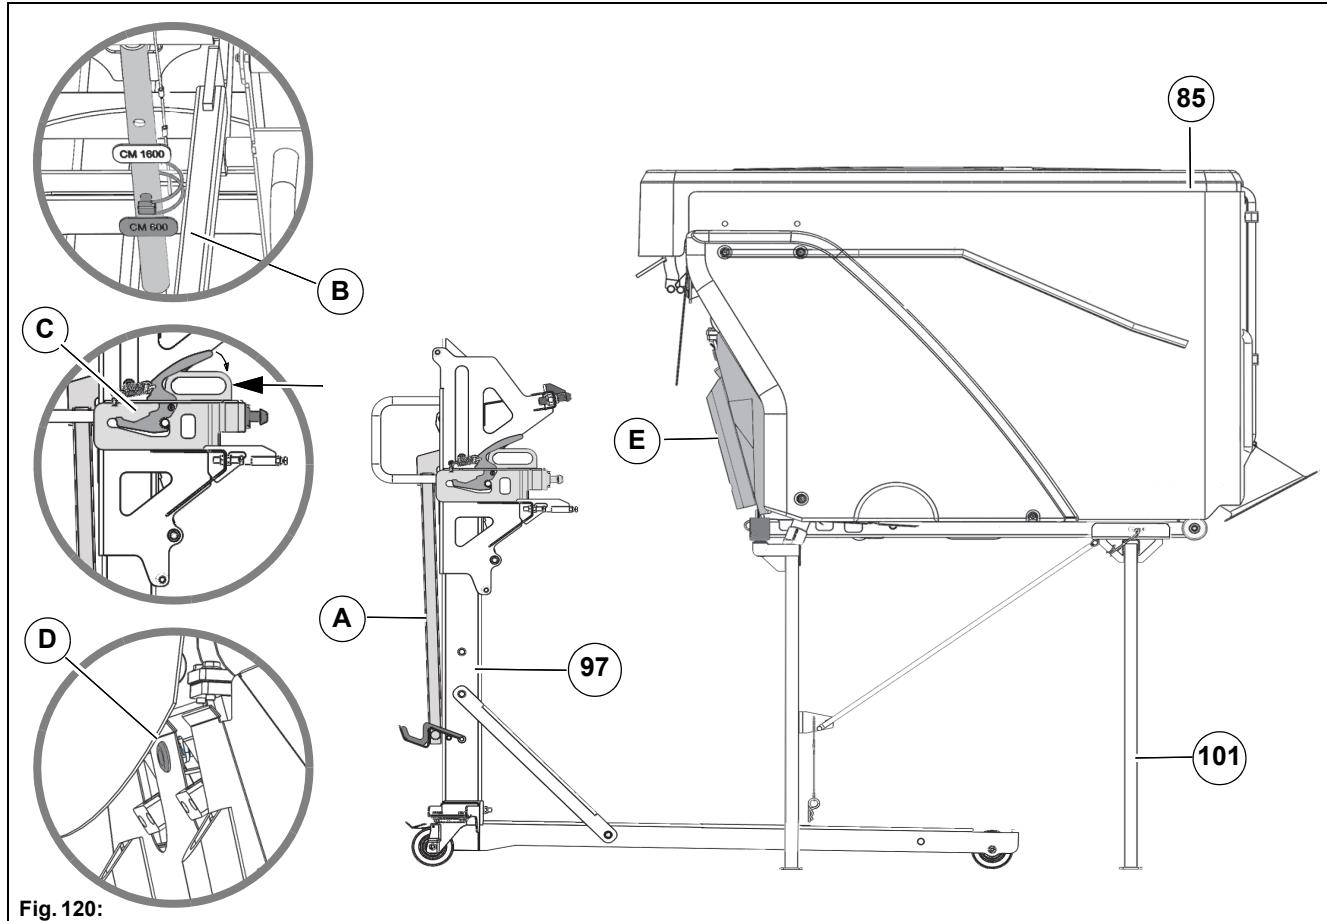

Fig. 120:
2. Unlock the lever **Fig. 120-A** of the trolley **Fig. 120-97** and swing it into the upper position.
3. Hold the lever **Fig. 120-A** in the upper position with one hand. With your other hand plug the mounting bolt **Fig. 120-B** on the Citymaster 650.
4. Unlock the sledge **Fig. 120-C** with the lever and push it into the rear position.
5. Open the lock **Fig. 120-D** of the lid **Fig. 120-E** and swing the lid downwards.